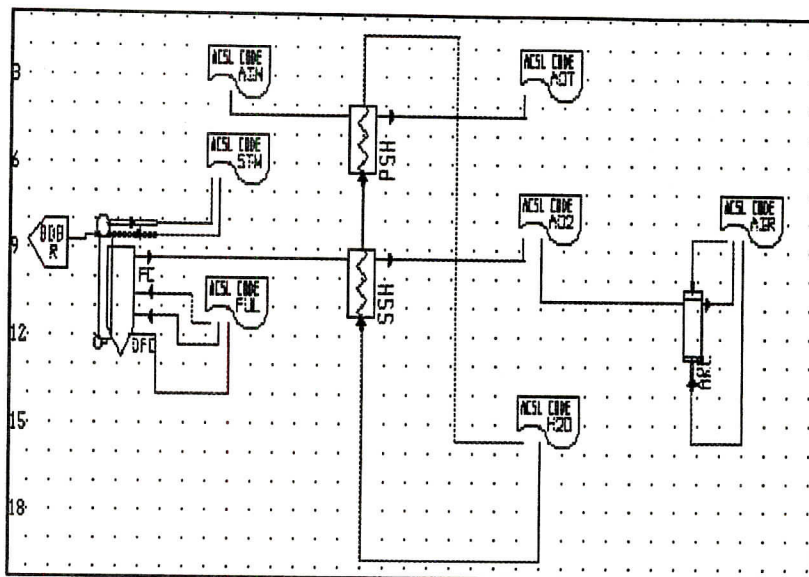

Figure 6: Code as Boundary Conditions
2. Figure 6 shows the **ACSL CODE** icon connected to the air/gas paths of **DRUMNC**, **SPRHTR**, and **AIRHX**. For example, the **CODE** icon with ID = 'AIN' connects to the gas entering (GE) port of the primary superheater, ID = 'PSH'. Since the 'EN' port of 'AIN' is used, the flow stream identifier for the gas flow entering 'PSH' will be 'AINE' (AIN + E; the 'E' comes from the first letter of the port 'EN' on 'AIN'.)